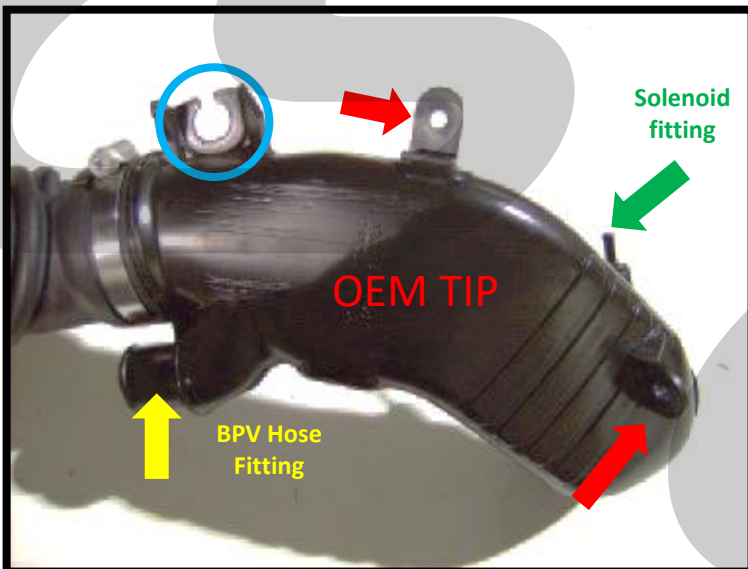

Figure 3b
- b) Remove the 10mm nut that holds the stock turbo inlet pipe in place (blue circle in Figure 3b).
- c) Remove the two wiring harness clips (red arrows in Figure 3b) located on the stock turbo inlet pipe.
- d) Using needle nose pliers, release the small spring clamp from solenoid fitting on the OEM TIP (see the **green arrow** in **Figure 3b** on the previous page). Then remove the small hose from this same fitting.